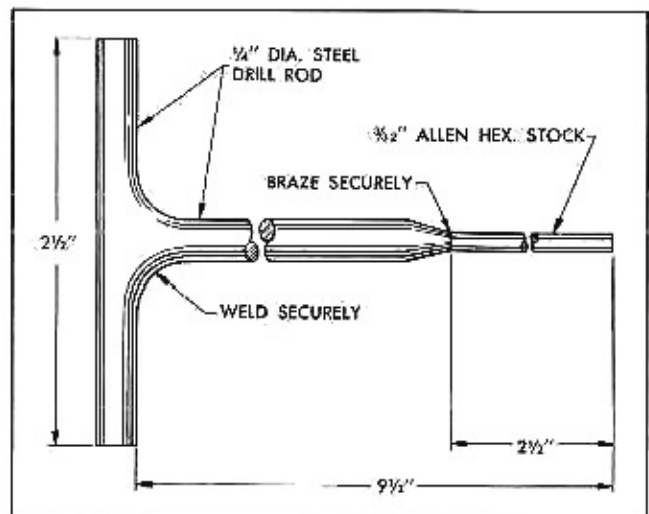

Fig. 3-15 Air Inlet Valve Link Adjusting Tool
**NOTE:** A tool made as shown in Fig. 3-15 will facilitate adjustment of the link.